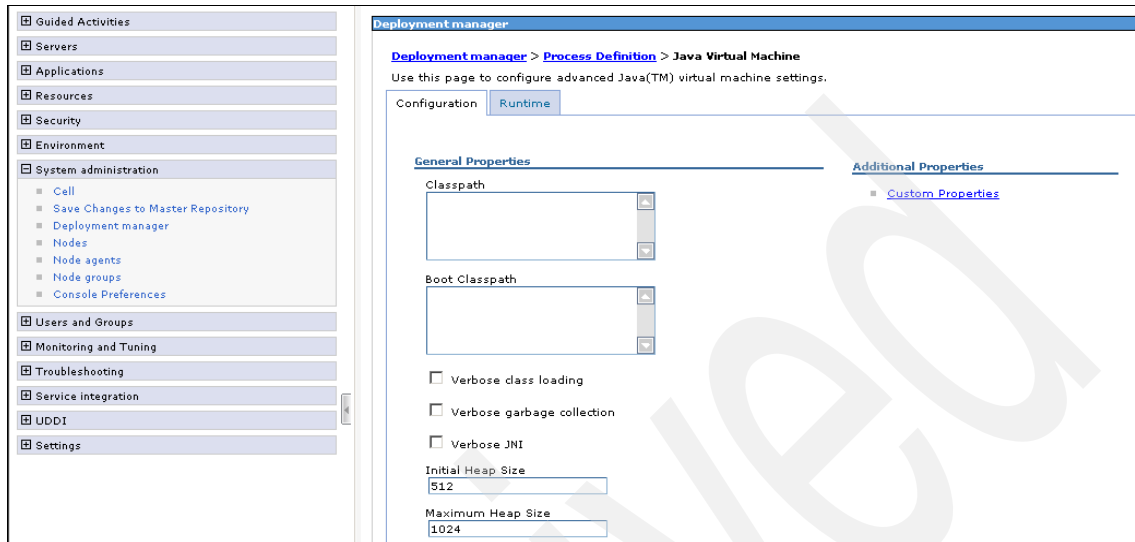

Figure A-9 Heap Size
9. Scroll down and type 512 for **Initial Heap Size** and 1024 for **Maximum Heap Size** and click **OK** (see Figure A-9).